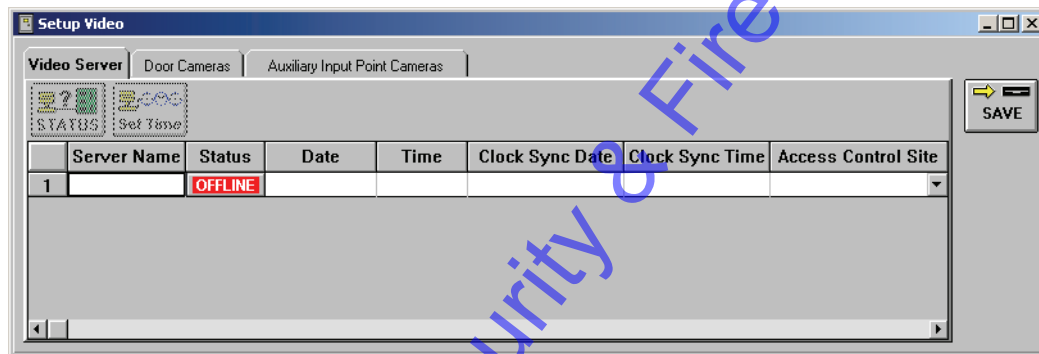

Figure 15-5: Video Server Tab
1. Click on the Setup ⇒ Video pull-down menu. The Setup Video window appears (see Figure 15-5).